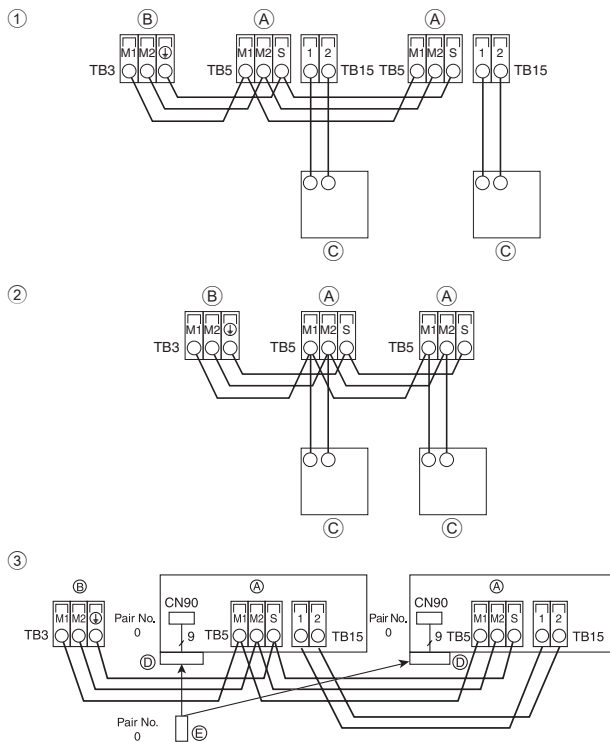
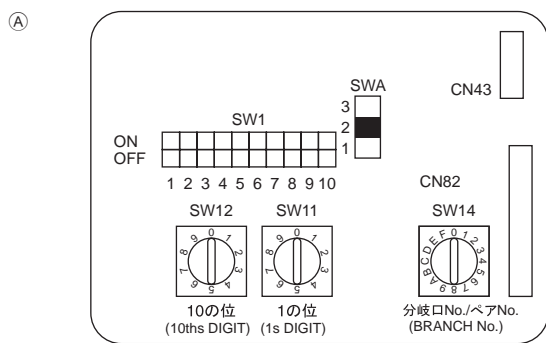

Fig. 6-3
Fig. 6-4
6.4. Connecting remote controller, indoor and outdoor transmission cables (Fig. 6-3)
- ① MA Remote controller
- ② M-NET Remote controller
- ③ Wireless remote controller (When installing wireless signal receiver)
- (A) Terminal block for indoor transmission cable
- (B) Terminal block for outdoor transmission cable (M1(A), M2(B), ⊕(S))
- (C) Remote controller
- (D) Wireless signal receiver
- (E) Wireless remote controller
6.5. Setting addresses (Fig. 6-4)